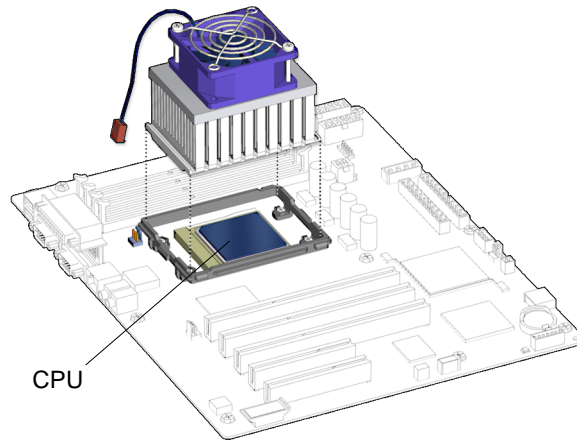

FIGURE 11-19 Lifting the CPU Fan and Heatsink Assembly Away
- c. Lift the CPU fan and heatsink assembly off of the CPU. See FIGURE 11-19.**
Arrange the assembly so that the cable is toward the back of the chassis. See FIGURE 11-19.